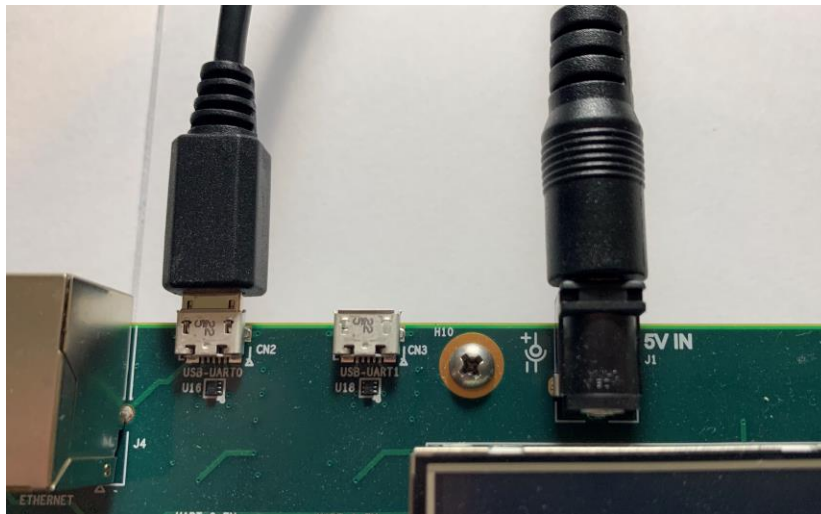

Figure 5: Power and USB Serial Connections
1. Connect wall wart supply barrel connector to J1 as shown in Figure 5
3. After powering the EVKit, connect the included Micro USB cable from the test PC to the EVKit connector CN2 as shown in Figure 5.